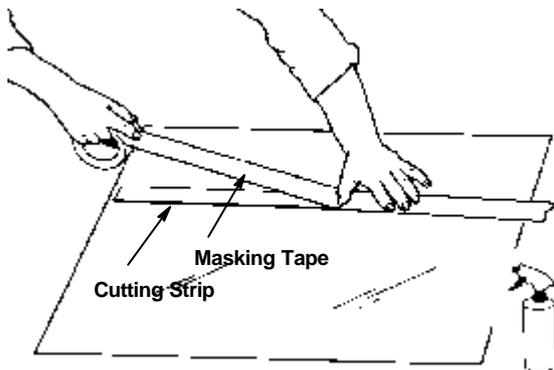

Figure 6. Taping Cutting Strip to Sign Surface
3. Tape the cutting strip to the sign surface with 5.1 cm (2 inch) masking tape 232. See Figure 6.